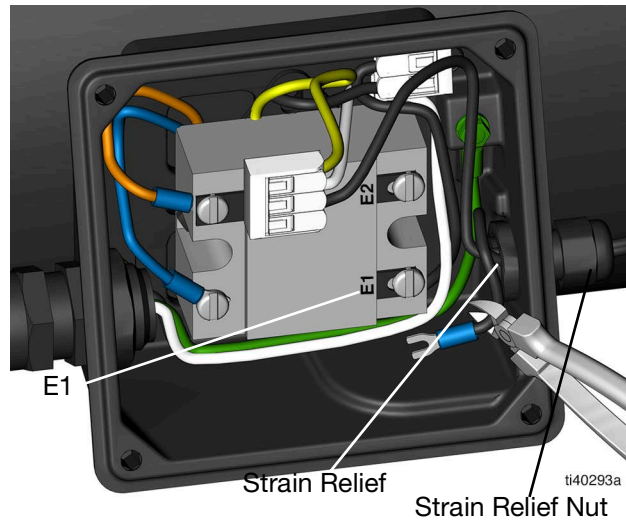

FIG. 23
8. Use a screw driver to disengage pressure switch wire from E1. Unplug the other pressure switch wire from the connector containing the yellow and white cables (FIG. 23).
9. Cut the pressure switch wire (FIG. 23) with the fork connector.
10. Loosen the strain relief nut (FIG. 23).
11. Pull the pressure switch wire out of the terminal box through the strain relief (FIG. 23).